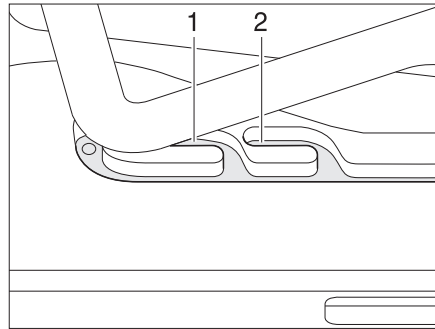
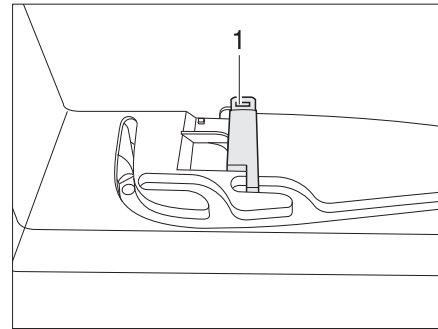

Fig. 88 Heki skylight in ventilation position
Fig. 89 Ventilation position locking mechanism
The Heki skylight can be put in two ventilation positions: Bad weather position (Fig. 88,1) and central position (Fig. 88,2). Depending on the model, the skylight can be locked in the central position with the latch (Fig. 89,1).
- Push the bar slightly upwards and into the selected guide (Fig. 88,1 or 2) and lock if necessary.